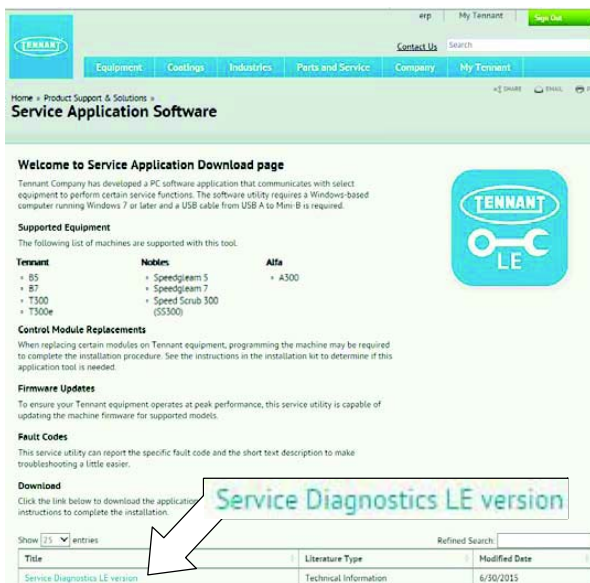

FIG. 8
- Within the Service Application Software page, click on the “**Service Diagnostics...**” link to download the application installer. (Fig. 8)